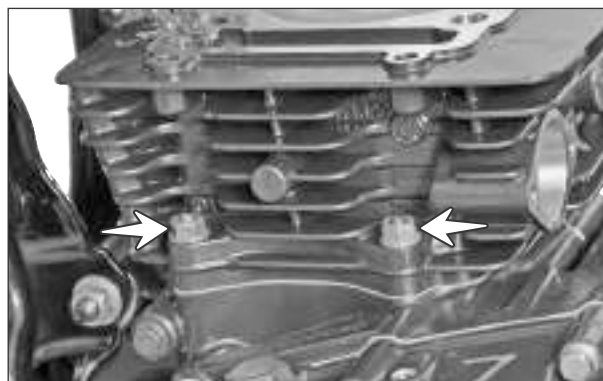

Fig. 3.80
- | Remove the hexagonal flange nut (M6 - 2 nos.) from the mounting cylinder block with the crankcase. (Fig. 3.80)